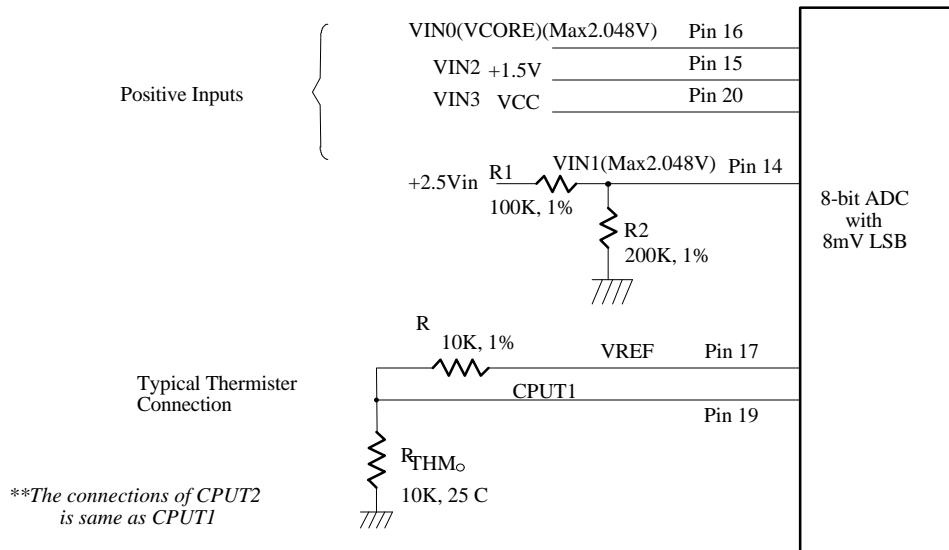

Figure. 3.
The maximum input voltage of the analog pin is 2.048V because the 8-bit ADC has the 8mV LSB. Actually, the application of the voltage monitoring would most often be connected to power suppliers. The +1.5V voltage can directly connected to these analog inputs. The +2.5V and CPU VOCRE, the inputs higher than 2.048V, should be reduced a factor with external resistors so as to obtain the input range. As Figure 3 shows.
The W83L785R can connect two thermistors to measure three different environment temperature or remote temperature. The specification of thermistor should be considered to (1)  $\beta$  value is 3435K, (2) resistor value is 10K ohms at 25°C. In the Figure 3, the themistor is connected by a serial resistor with 10K Ohms, then connect to VREF (pin 17).